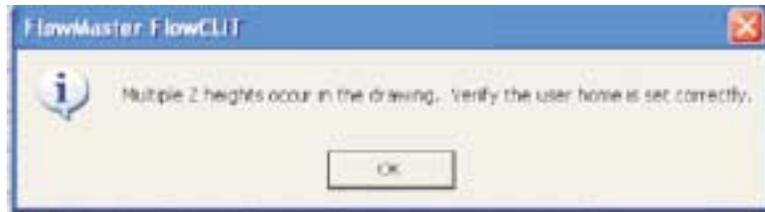
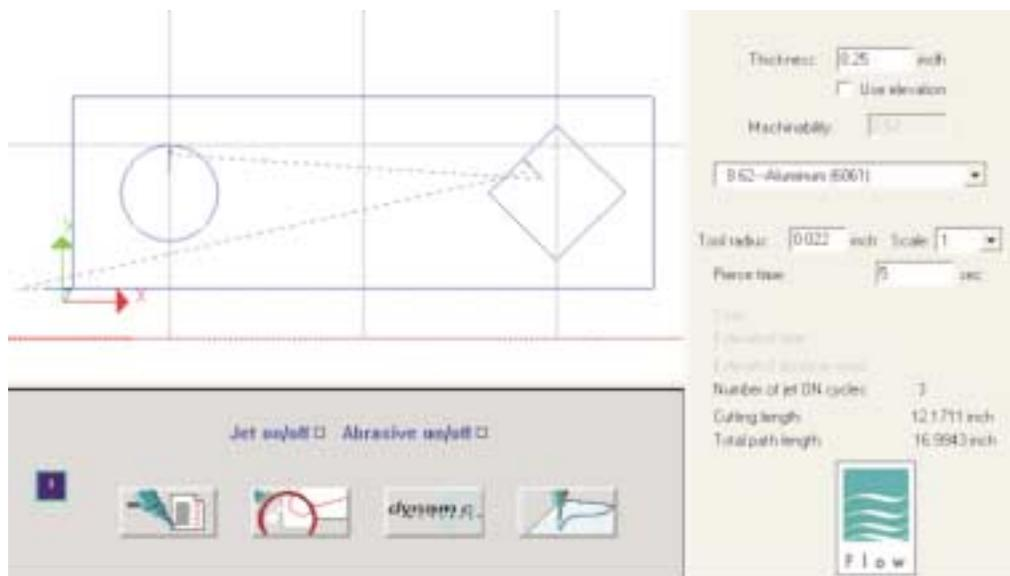

Figure A-15. Warning message when a part with Z-dimensions is opened in FlowCUT 6.0.
Figure A-16. Part loaded with moves in Z-direction
When a part with Z-dimensions is opened in FlowCUT 6.0, FlowCUT notifies the user that multiple Z-heights are in the drawing and to be cautious when setting the user home. This message is shown in Figure A-15. Click **OK** and the image appears (see Figure A-16).
Note: The Use elevation checkbox is no longer dimmed when a part with Z-elevations is opened in FlowCUT 6.0 (see Figure A-16). This checkbox affects the cutting speeds used by FlowCUT and will be explained later.
1. Open drawing (as shown in Figure A-16).